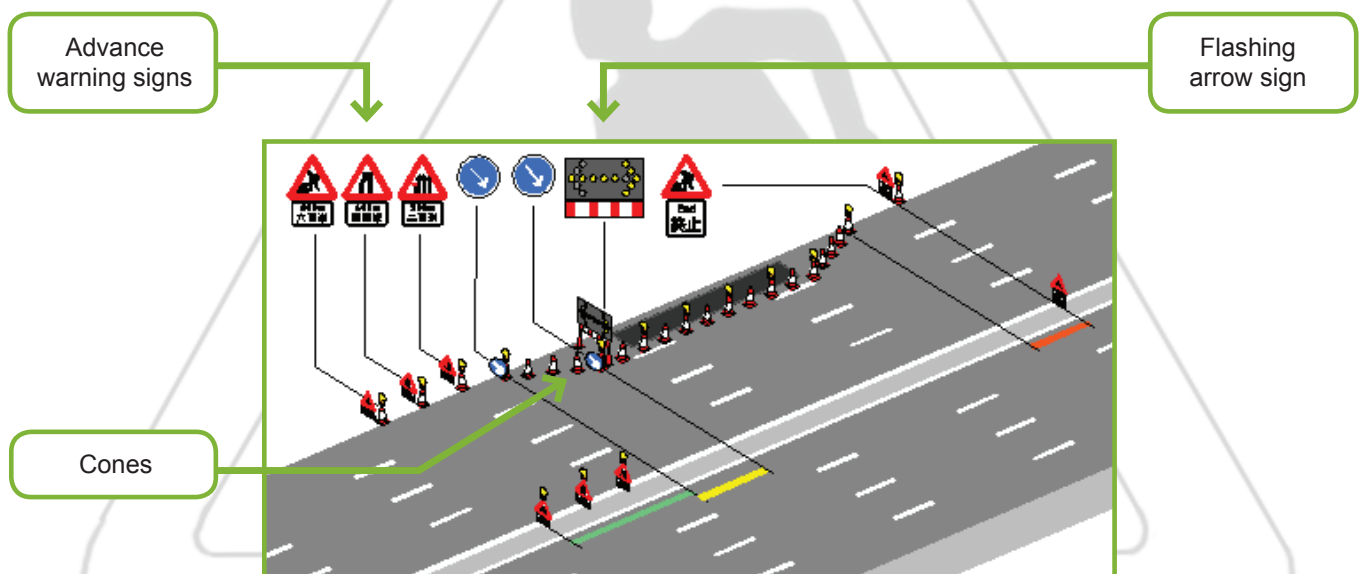

Figure 3: Advance warning signs, cones and flashing arrow signs
- The following figure shows the typical signs (including advance warning signs, cones and flashing arrow signs, etc.) to be used during lane closure on an expressway (see Figure 3), refer to Fig.B-1 to Fig.B-8 of the Code about the sign layouts for other lane closure on an expressway.